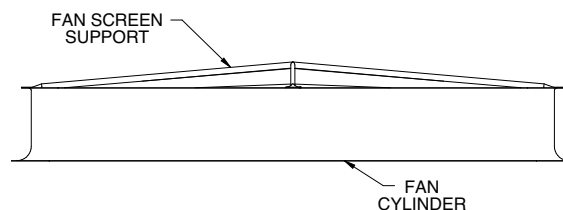

Figure 11 – Support Frame Installation
2. The fan screen is supported from underneath by an "X" shaped support frame. Set the support frame across the top of the discharge cylinder (See Figure 11), and fasten to cylinder with 3/8" bolts.